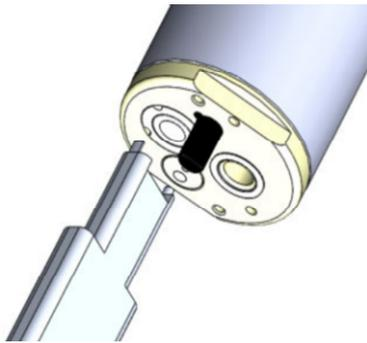

Figure 7
1. Use the LENS repair tool (included in the kit) and insert the prongs into the recess in the pH sensor (Figure 7 & 8).